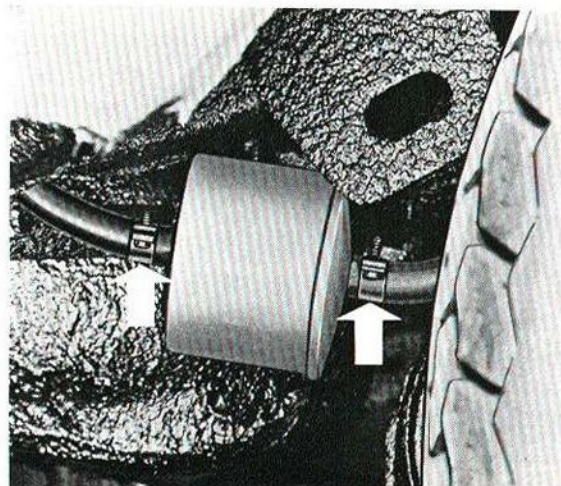

Fig. 2-188. Removing fuel filter
2. Pinch the filter hoses with pinchers (2901). Release the hose clamps and remove the filter from the hoses, see Fig. 2-188.